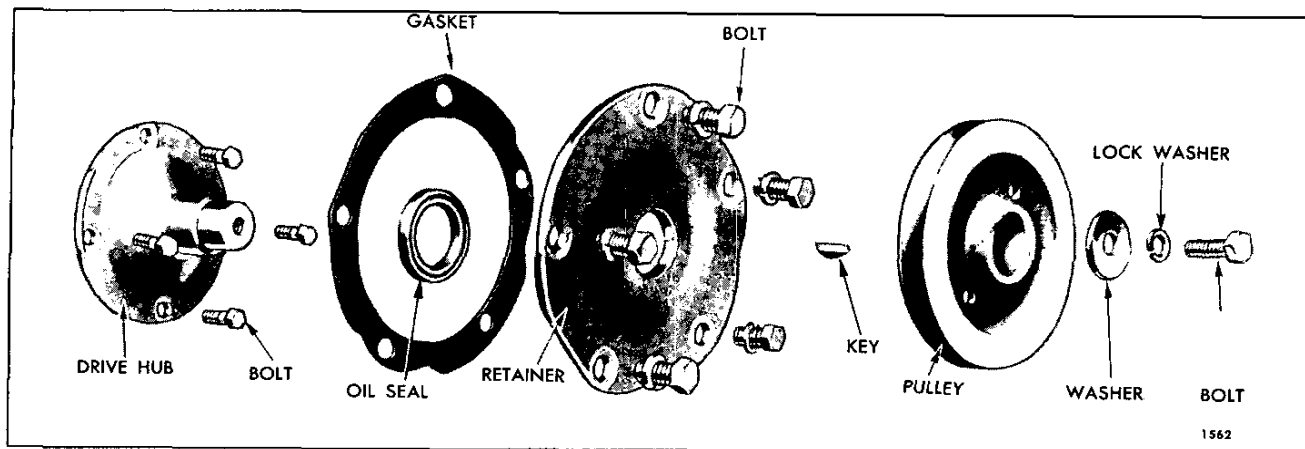
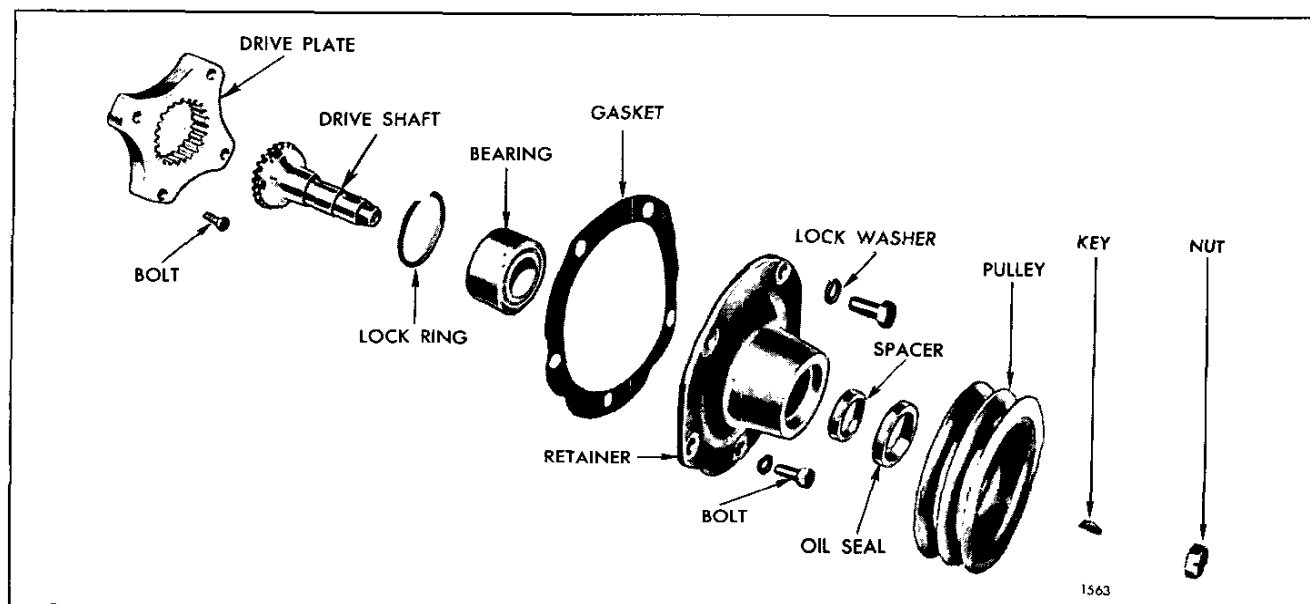
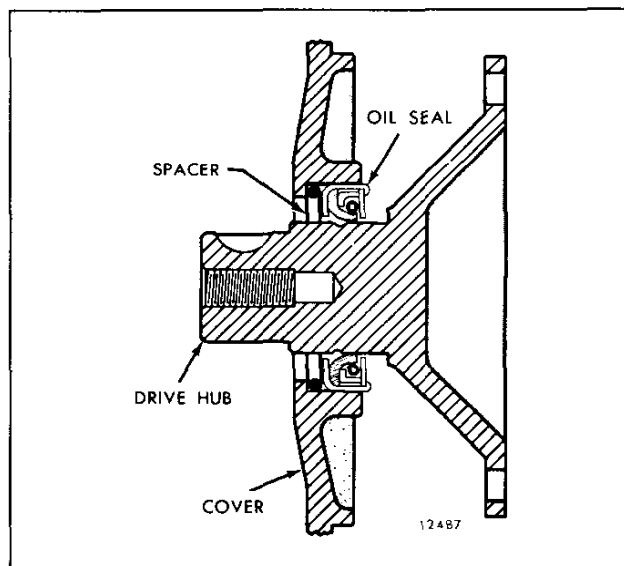

Fig. 4 – Components of Accessory Drive for Belt-Driven Accessory (Drive Hub Type)
Fig. 5 – Components of Accessory Drive for Belt-Driven Accessory (Drive Plate Type)
Fig. 7 - Location of Oil Seal Spacer
In the first arrangement, illustrated in Fig. 4, the drive hub is bolted to the camshaft or balance shaft gear. The oil seal retainer is bolted to the flywheel housing and the pulley is keyed to the drive hub shaft which extends through the oil seal retainer.
In the second arrangement, shown in Fig. 5, the spacer and accessory drive plate are bolted to the camshaft or balance shaft gear. The accessory drive shaft is splined to the drive plate at one end and supported by a bearing in the accessory drive retainer at the other end. The accessory drive retainer, which also incorporates an oil seal, is bolted to the flywheel housing. The pulley is keyed to the drive shaft which extends through the drive retainer assembly.
3. Remove the bolt and washer (Fig. 4), or nut (Fig. 5), retaining the pulley on the drive shaft.
6. Remove the accessory drive shaft, drive plate and spacer (Fig. 5), or drive hub (Fig. 4), in a manner
7. Remove the snap ring and ball bearing from the accessory drive shaft retainer assembly shown in Fig. 5.
Inspect the ball bearing used to support the accessory drive shaft shown in Fig. 5. Wash the bearing in clean fuel oil and dry it with compressed air.
Shielded bearings must not be washed; dirt may be washed in and the cleaning fluid could not be entirely removed from the bearing. Wipe the outside of the bearing clean, then hold the inner race and revolve the outer race slowly by hand. If the bearing is worn or does not roll freely, replace the bearing. Inspect the accessory drive hub, shown in Fig. 4, for grooving at the area of contact with the lip of the oil seal. If the hub is grooved to a point where the effectiveness of the oil seal is lost, a ring type oil seal spacer is available which serves to reposition the seal, thus providing a new sealing surface for the lip of the seal (Fig. 7).
4. If the accessory drive shown in Figs. 5 or 6 is used, assemble as follows: